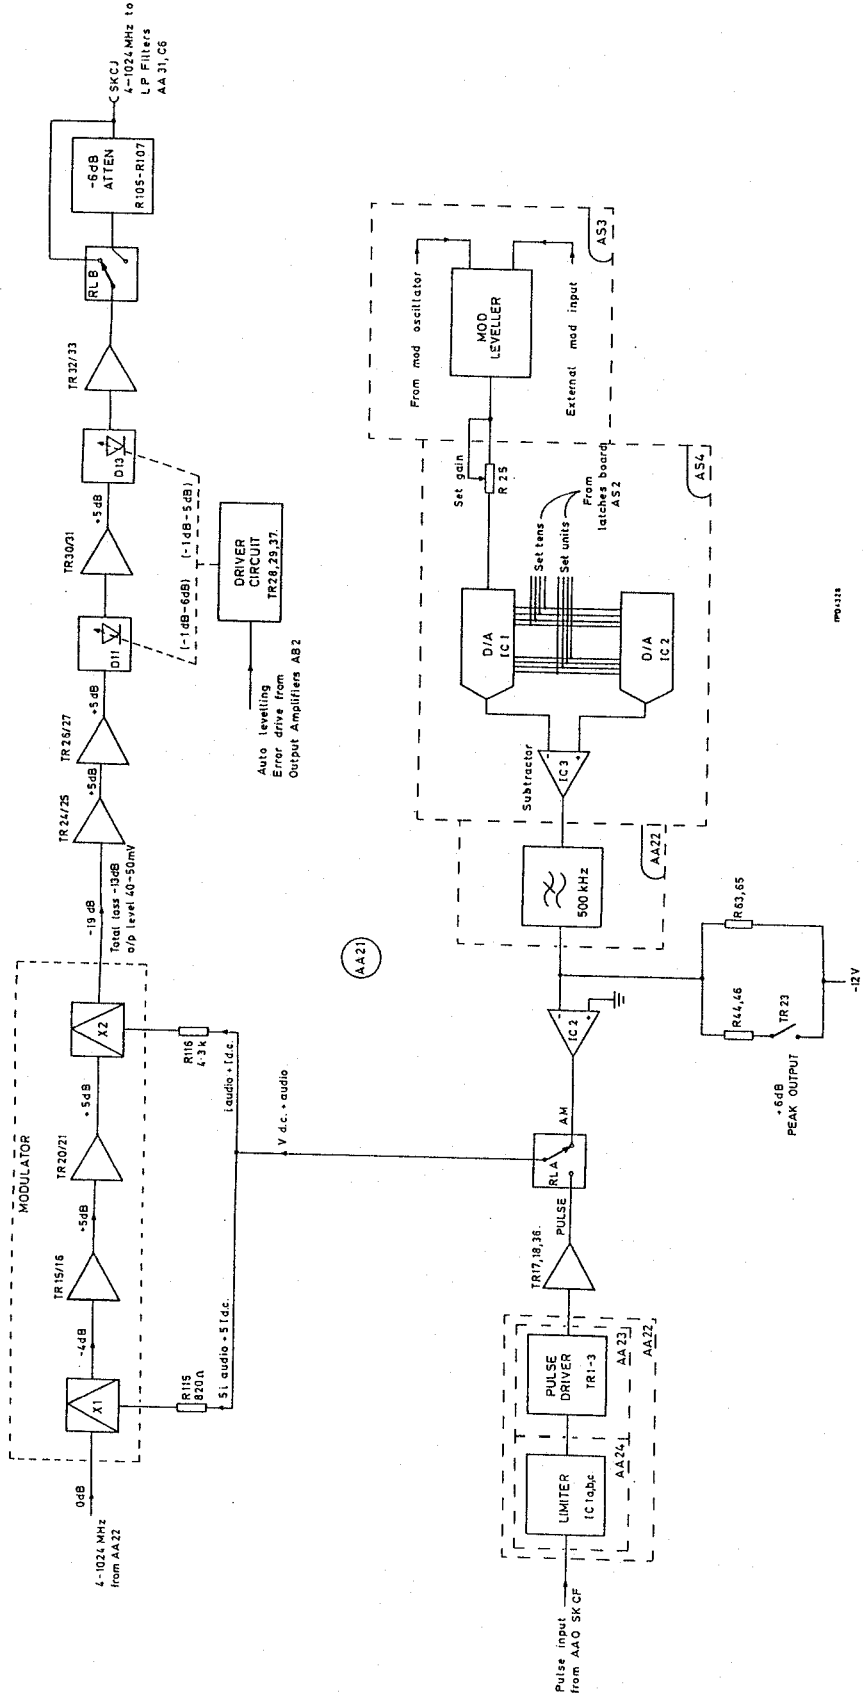

Fig. 5 Modulator unit (AA21) simplified block diagram
16. RF input to the first mixer stage is via SKCB or SKCC. Mixer X1 is driven with five times greater bias and audio current than mixer X2 as shown in Fig. 5. TR22 emitter follower gives a low distortion a.f. input to the i.f. port and also helps to alleviate possible diode junction non-linearity. The two stage amplifier TR15,16 TR20,21 boosts the signal to around 400 mV to feed mixer X2 ensuring sufficient drive and low distortion.